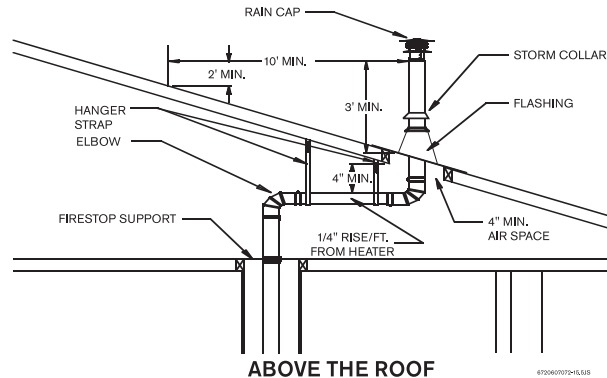

Fig. 16 Vertical vent terminations clearances (Combustion air piping not shown)
- ▶ The exhaust vent must terminate above the roof surface with an approved vent cap not less than 3 feet (0.6 m) above the highest point where it passes through the roof and at least 2 feet (0.6 m) higher than any vertical wall or similar obstruction within 10 feet (3.1m). See Fig. 16 and Table 5.